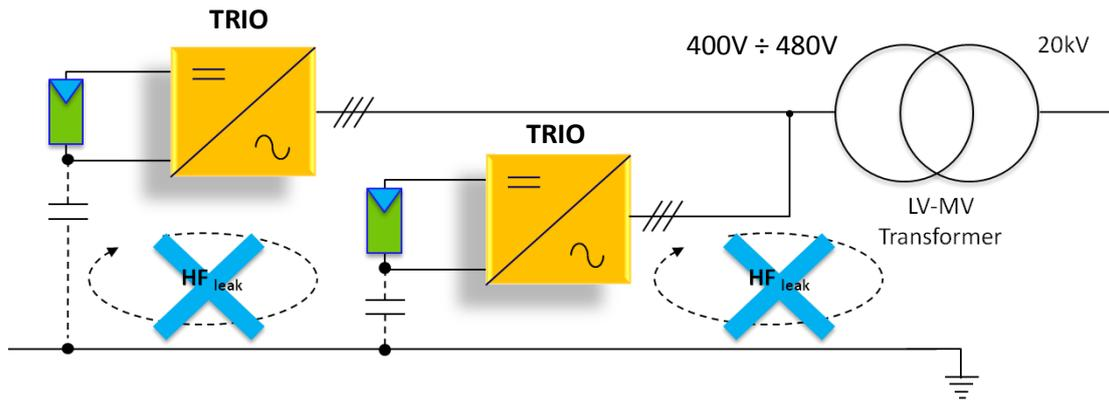

Fig.2: TRIO Inverter. Connection of multiple units in parallel at the common AC output is possible, thanks to the inherently low (negligible) leakage current.
- This prevents high frequency current circulation in the ground loop, thus allowing the possibility of connecting multiple inverters in parallel at the common AC output, as schematically illustrated in Fig. 2. The parallel connection can be referred to multiple inverters connected at the same secondary winding of the step-up transformer.